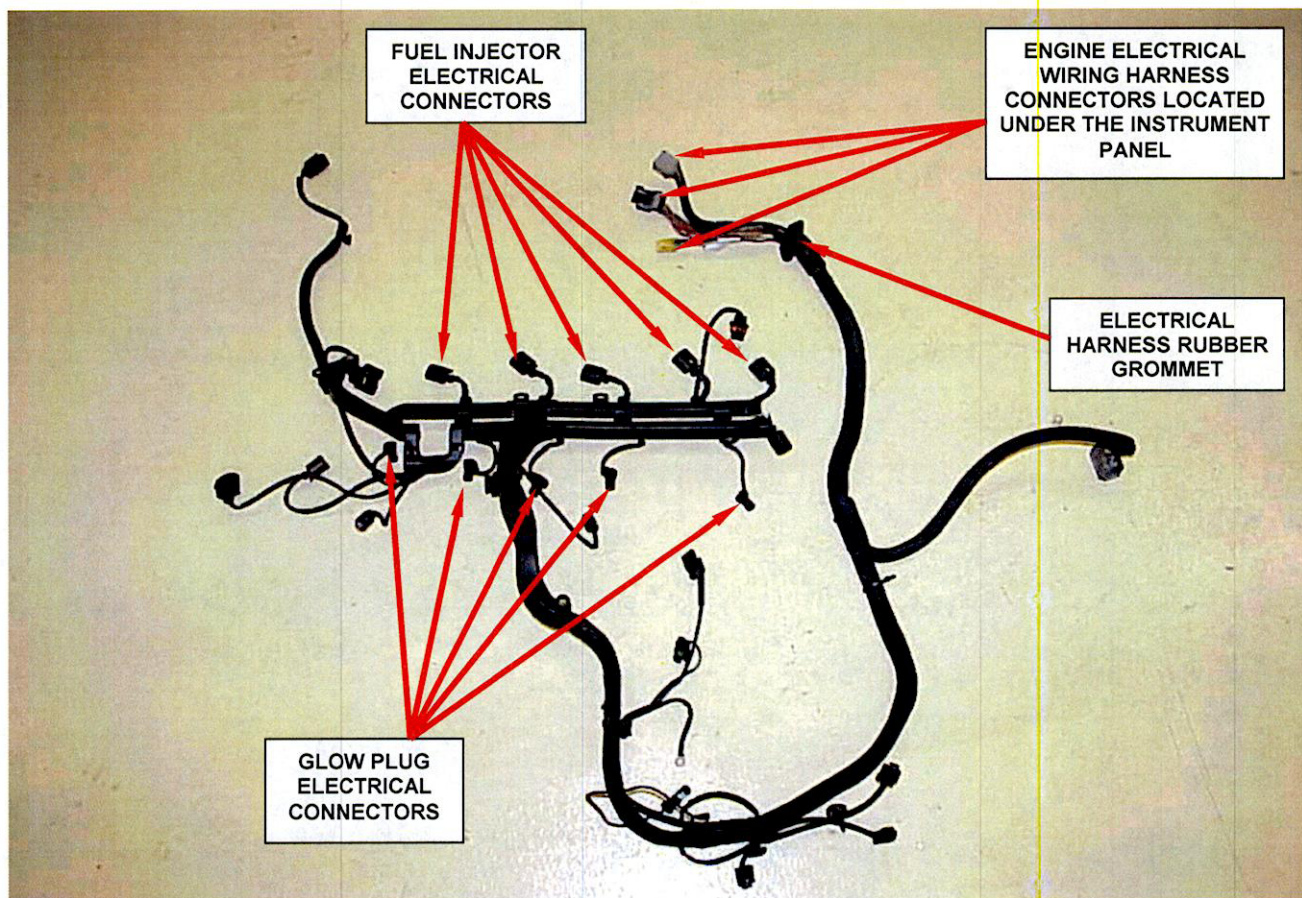

Figure 6 – Remove Engine Wiring Harness
- f. Disconnect all underhood connectors that are related to the engine harness (Figure 6).
- h. Using Special Tool 9286, disconnect the five glow plug electrical connectors from the glow plugs (Figure 6).
- i. Disconnect the electrical connectors at the five fuel injectors (Figure 6).
- j. Carefully remove the entire engine electrical harness assembly from the vehicle (Figure 6).
b. Using Special Tool 9286, connect the five glow plug electrical connectors onto the glow plugs (Figure 6).
d. Connect the electrical connectors at the five fuel injectors (Figure 6).